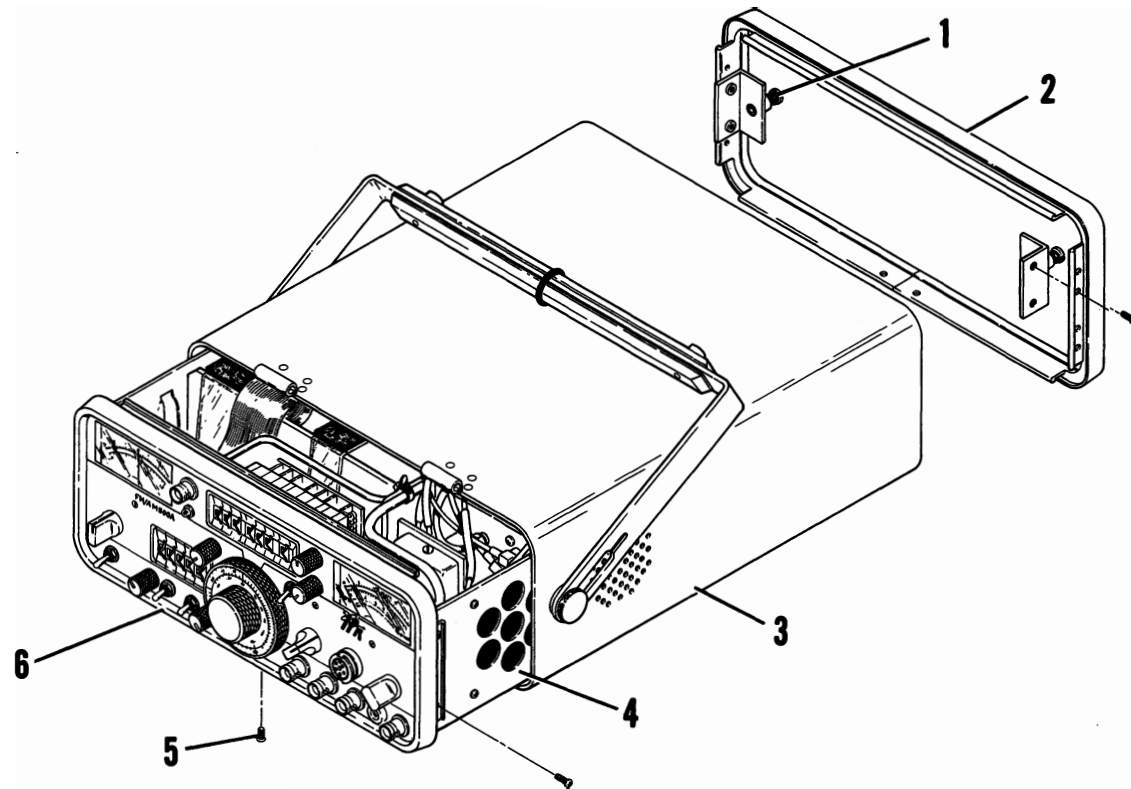

Figure 6-1 FM/AM-500A Case Removal
A. Removal (Figure 6-1)
1. Loosen two captive screws (1) on rear escutcheon (2) and remove escutcheon.
2. Carefully slide chassis (4) out of case (3).